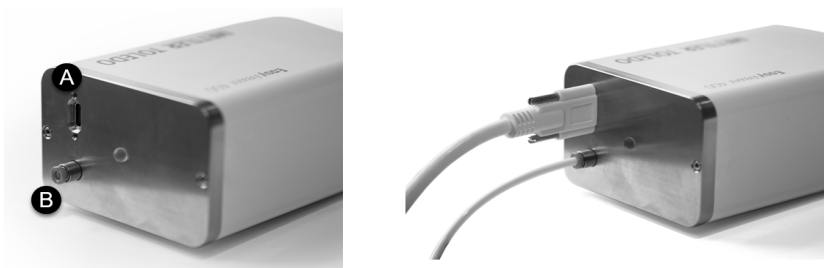

Figure 3. Instrument Connections:
2. Connect the air supply to the air inlet on the purge controller (B in Figure 3). The required tubing from the air supply to the Purge Controller is user-supplied (6.35 mm [1/4-inch], rated for 120 psig, may be made of polypropylene, PVC, or nylon).